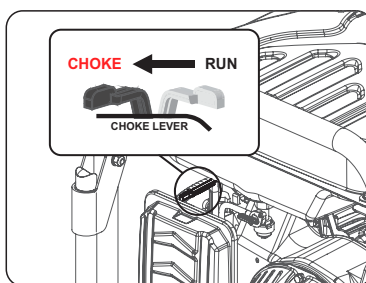

Fig 11
- Slide the choke lever to the “Choke” position. (See fig 11) **SKIP THIS IF THE ENGINE IS WARM OR HOT.**